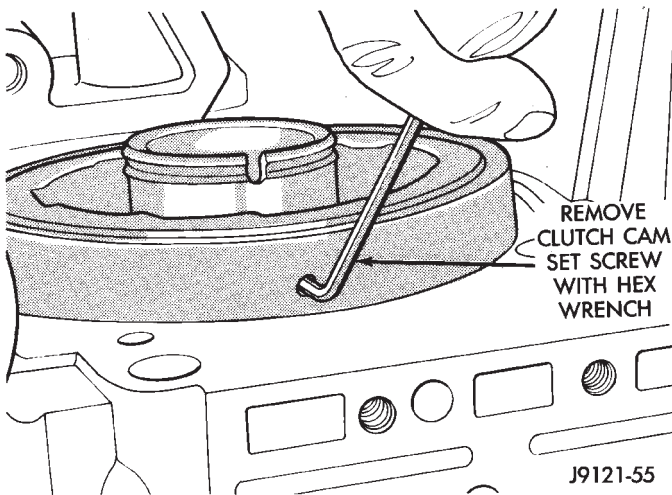

Fig. 39 Removing/Installing Clutch Cam Setscrew—46RH
- (1) Remove clutch cam setscrew (Fig. 39).
(12) Install clutch cam setscrew (Fig. 39).
(13) Remove clutch cam installer tools and piston retainer.
(15) Clean case and cam thoroughly. Be sure any chips/shavings generated during cam installation are removed from case.